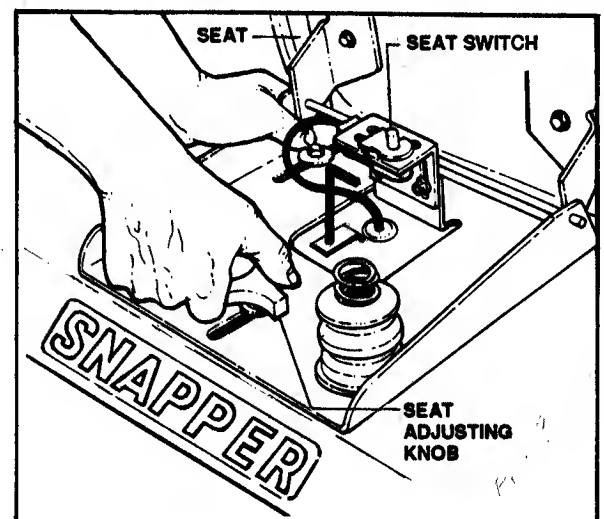

FIG. 8 · OPERATOR'S SEAT ADJUSTMENT
**FORE & AFT ADJUSTMENT:** Stop the tractor and tilt the seat forward. Loosen the **ADJUSTING KNOB** (on seat support) then lower the seat. Sit on the seat and depress the **CLUTCH/BRAKE** pedal while sliding the seat forward as rearward to the most comfortable position, then lock it into place by retightening the **ADJUSTING KNOB**. Refer to FIG. 8.